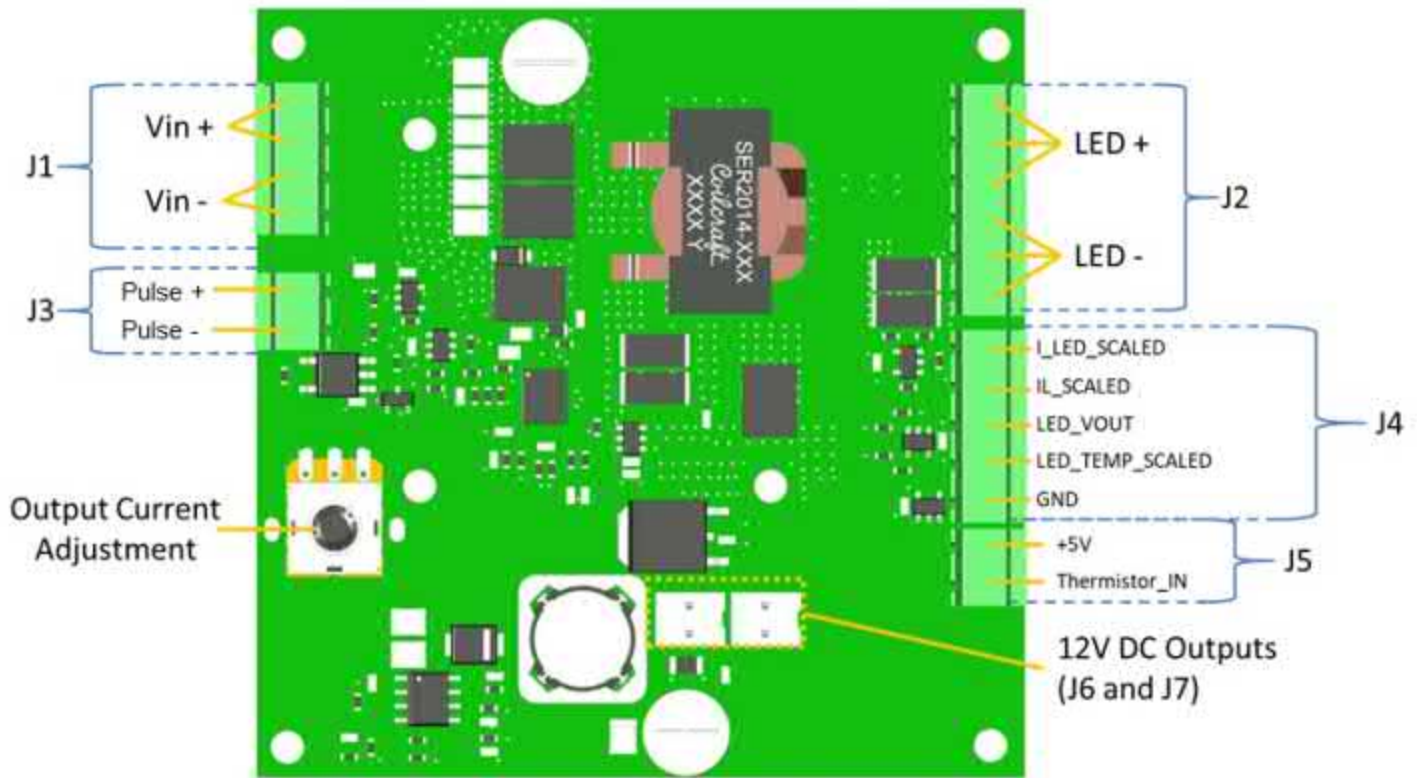

Figure 8: Complete driver board pin layout.
The driver board is designed to provide power up to 36 A to any Luminus high-power LED device. Note that different LEDs have different drive current ratings and care must be taken not to exceed these limitations. Consult product data sheets for forward current and junction temperature specifications of specific LEDs. Figure 8 shows the top view of a driver board along with commonly used pins (labeled), switches and readouts.
1. Make sure the power supply is OFF and the power switch (ON/ OFF switch in Figure 8) on the driver board is OFF.